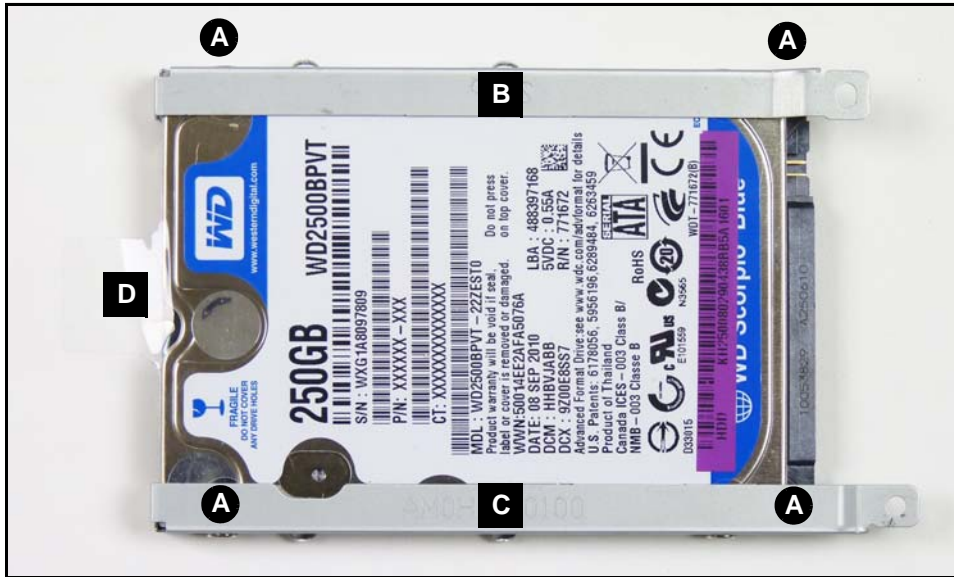

Figure 3-14. HDD Module Brackets
1. Remove four (4) screws (A) from the brackets (Figure 3-14).
1. Install mylar (D) to brackets (C) and (D) (Figure 3-14).
2. Install and secure brackets and mylar to HDD module with four (4) screws (A). (Figure 3-14)